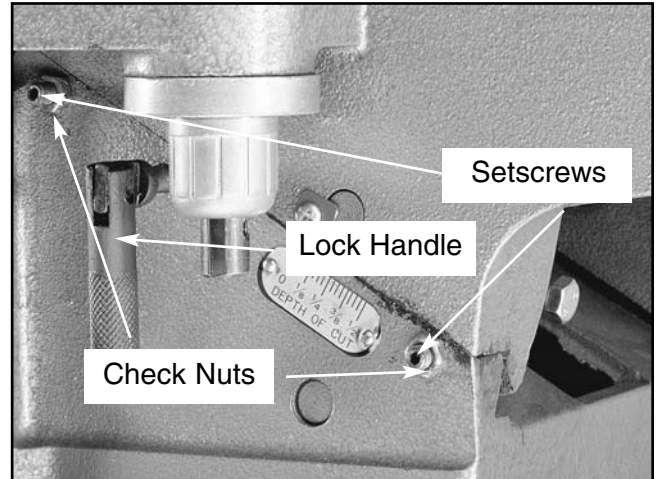

Figure 14. Location of check nuts.
1. Unscrew the upper and lower check nuts on the infeed table several turns, leaving the lock handle tight. **See Figure 14.**